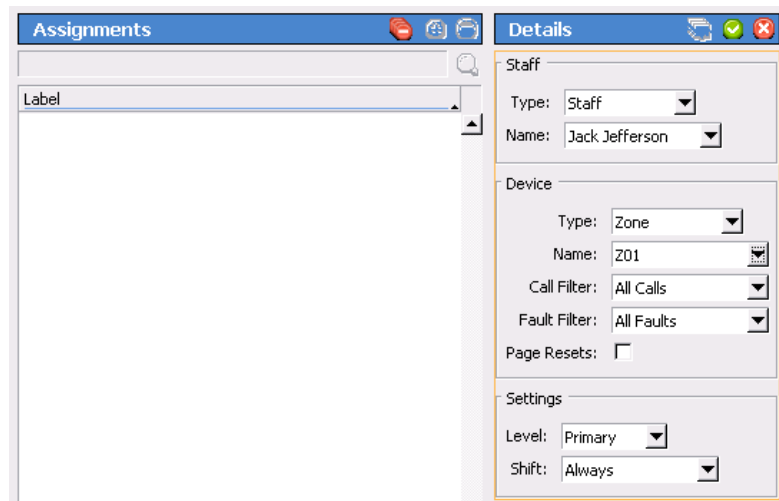

Figure 51: Config Tool Assignments Page
2. Choose **Assignments** from the page selection pane. The Assignments page (Figure 51) will appear.